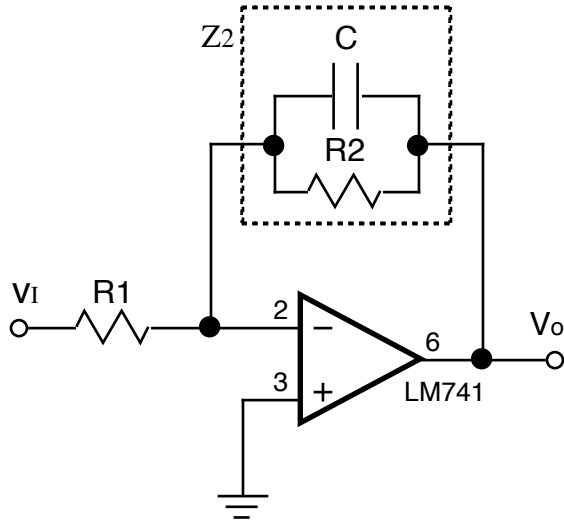
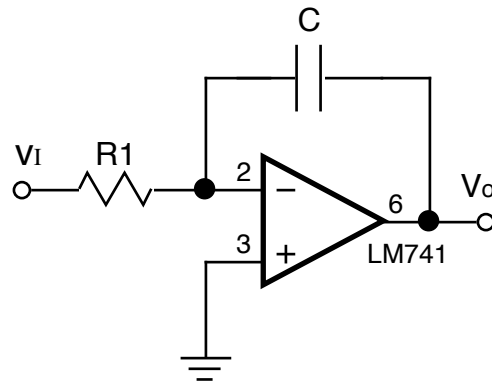

Figure 2.5
Figure 2.6
Figure 2.5 shows a simple low-pass active filter.
Figure 2.6 shows an integrator.
Construct the low-pass active filter of Figure 2.5, with $R_1 = 1\text{k}\Omega$, $R_2 = 100\text{k}\Omega$, and $C = 1000\text{pF}$. The 1000pF capacitor has a value code of "102".
- 4.5 In an effort to make the circuit act like an integrator at all frequencies, remove resistor R_2 to obtain the circuit of Figure 2.6. What happens to the op-amp output?
Methods of dealing with this problem depend on the application. If the circuit needs to function as an integrator only above a certain frequency, then the topology of Figure 2.5 can be used. If the integrator must work down to DC, then the integrating capacitor in the op-amp feedback of Figure 2.6 can be periodically reset (shorted) before the op-amp saturates. Another option is to enclose the integrator in a larger negative feedback loop to compensate for op-amp DC errors with an external correction.